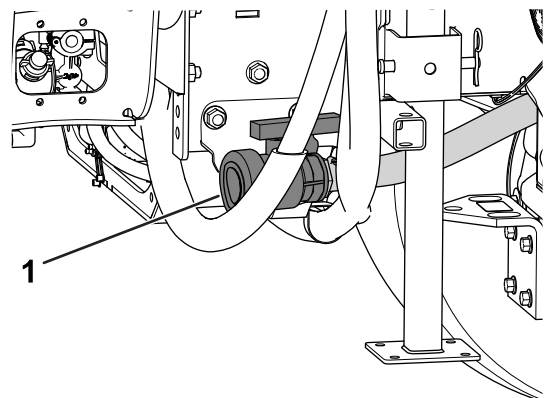

Figure 76
2. Locate the tank drain valve on the right side of the machine (Figure 76).